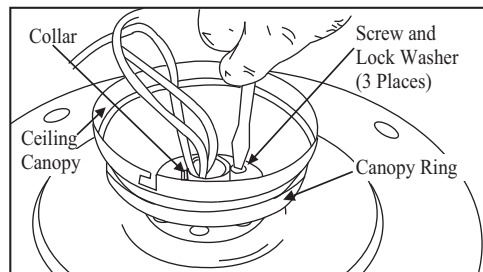

Figure 10
5. Route the wires exiting the top of the fan motor through the canopy ring (make sure the slot openings are on top). then proceed to place the ceiling canopy over the collar at the top of the motor. (Figure 10)
6. Align the mounting holes with the holes in the motor and fasten using the screws and lock washers removed in step 4. (Figure 10)